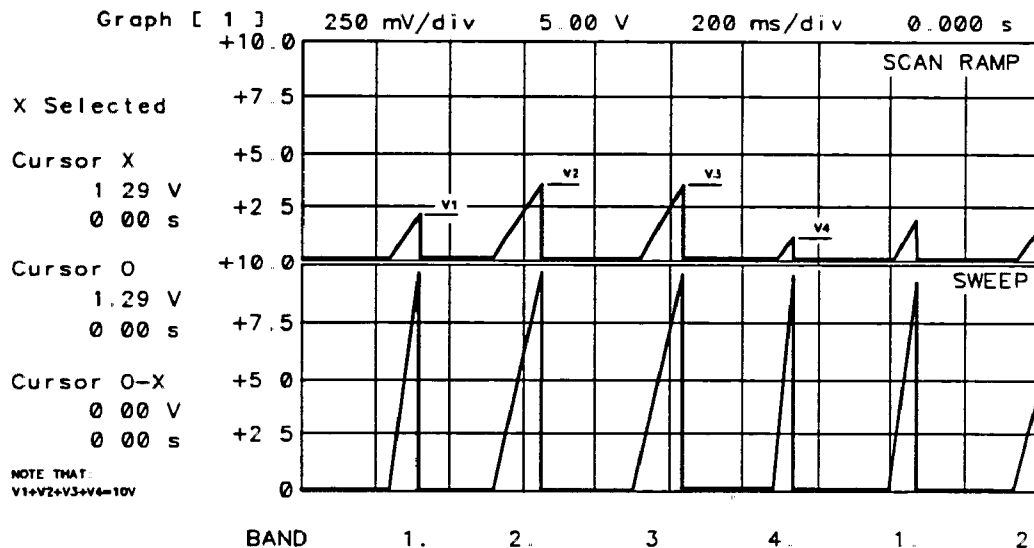

Figure 11-8. Sweep and Scan Ramps
During multiband sweeps, the sweep ramp at A14J15 pin 15 should go from 0 V to +10 V for each band or portions of a band covered. See Function Block K of A14 Frequency Control Schematic diagram (sheet 2 of 5). However, the scan ramp at A14U325A pin 1 is scaled according to the percentage of the total span that the band is covering. See Function Block L of A14 Schematic Diagram (sheet 2 of 5). Also, the sum of the individual ramps is 10 V. Figure 11-8 illustrates both sweep and the scan ramp for a 2.75 to 22 GHz span (HP 8562A's preset state).
2. Move the jumper on A14J23 to connect pins 2 and 3 (TEST position). Refer to Figure 11-8 for the location of A14J23. Error code 301 should no longer be displayed. (The YTO PLL's feedback path is now open.)